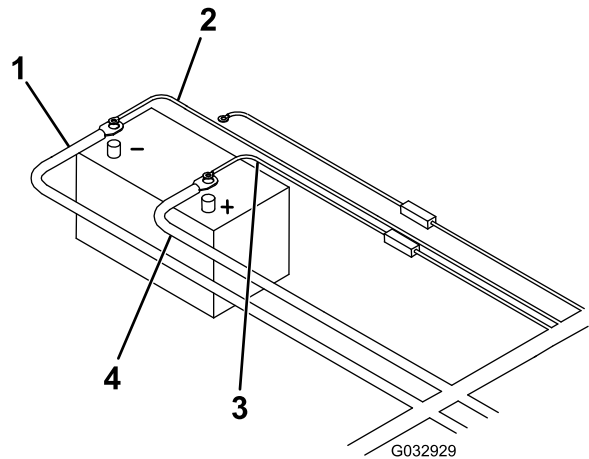

Figure 19
23. Connect the black power/ground cable to the negative (-) battery terminal (Figure 19).
24. Connect the brown wire to the negative (-) battery terminal (Figure 19).
25. Connect the free end of the battery cable to the positive (+) battery terminal (Figure 19).
26. Connect the red, fused wire to the positive (+) battery terminal (Figure 19).